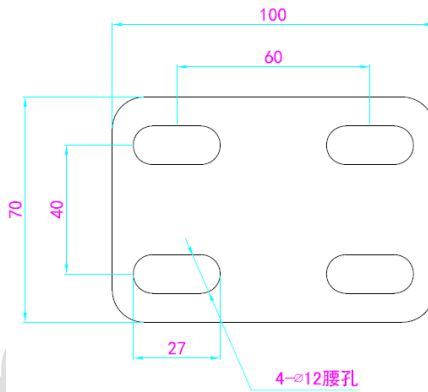

Fig 2-23 Rear Connecting Plate (front)
- 3) The left and right cabinets are fixed with M6 plug bolts, as shown in Fig. 2-23; the mounting plate and cabinet are fixed on the square pipe with hexagon socket bolts;